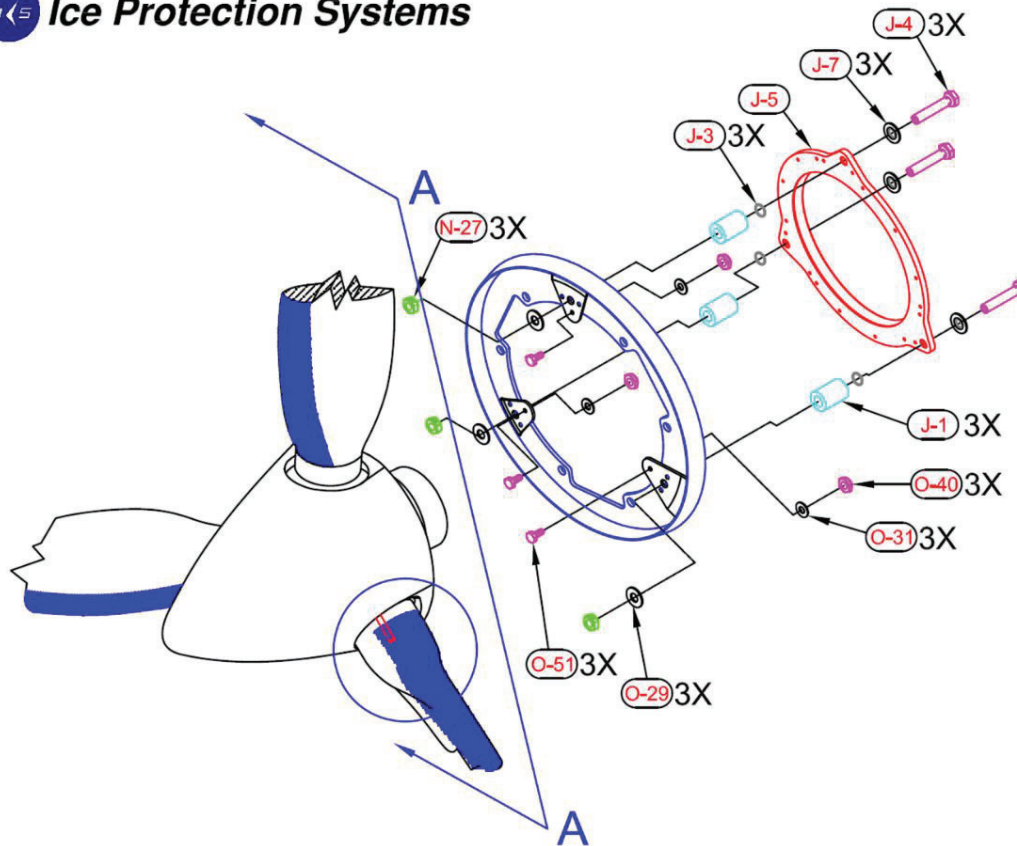

Figure 6: Diagram from CAV Aerospace Inc. drawing number 10351-37
Note: This modification was shown to be compatible with CAV Systems STCs SA01136WI (FIKI installation) and SA2239CE (non-FIKI installation). The following steps are intended to transplant certain existing CAV Systems hardware from the removed propeller and spinner bulkhead onto the new HC-C3YF-1N/NM8410B-6 propeller and spinner bulkhead. Figure 6 was taken from CAV Aerospace Inc. drawing number 10351-37.
- 3) Remove the fluid slinger ring (J-5) from the original propeller bulkhead by removing the fluid feed bolts (J-4), bonded seals (J-7), O-rings (J-3), short standoffs (J-1), washers (O-29), backnuts (N-27), and safety wire bolts (O-51), washers (O-31), and nuts (O-40). Retain all removed components for re-use except the bonded seals and o-rings – discard the bonded seals and o-rings. Reference Figure 6.
- 7) Using the provided new bonded seals and o-rings, assemble the fluid slinger ring onto the new propeller bulkhead using the retained fluid feed bolts, short standoffs, washers, and backnuts. See Figure 6 for hardware sequence.